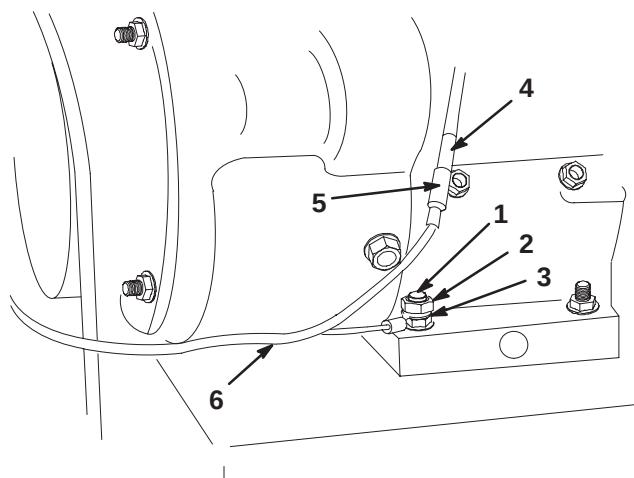

Figure 1
1. Secure the ring terminal of the wire harness to the right rear engine mounting bolt with a serrated flange locknut provided in the kit (Fig. 1).
Note: Position the ring terminal so that the wire harness is routed toward the rear of the snowthrower (Fig. 1).
2. Remove the rubber boot from the alternator connector that hangs over the electric starter (Fig. 1).
3. Securely connect the wire harness connector to the alternator connector (Fig. 1).